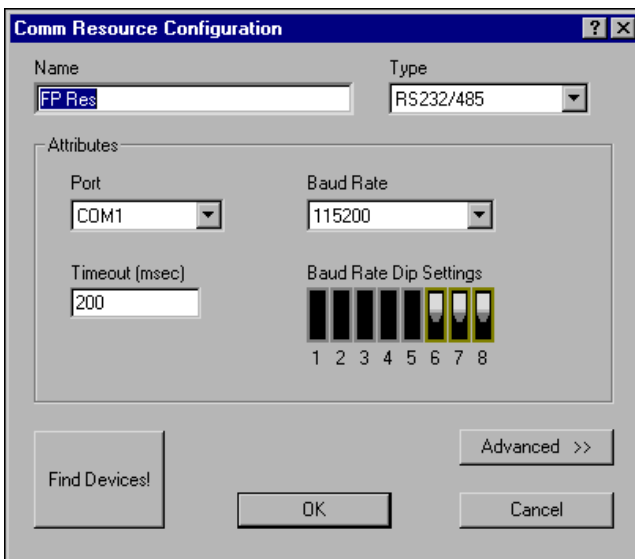

Figure 8. Communication Resource Configuration Window
- b. Right-click on the word **FieldPoint** in the left window frame and select **Add a comm resource to this server**. The **Comm Resource Configuration** dialog box appears, as shown in Figure 8.